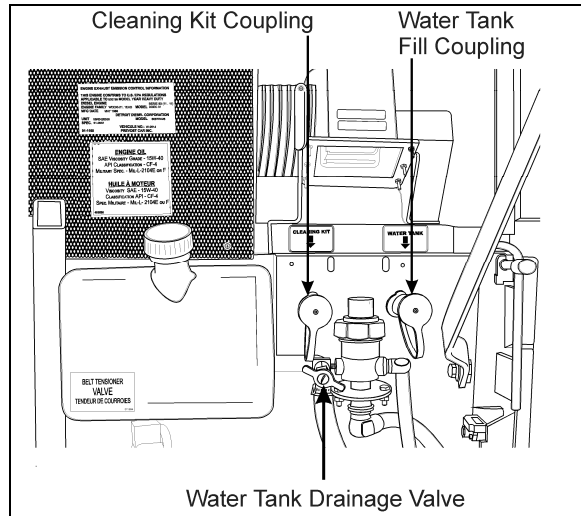

FIGURE 25: FRESH WATER TANK SERVICE VALVES
2. Insert projection at end of "BOBRICK" key into rectangular hole in cover (Fig. 25). Push straight in. While holding "BOBRICK" key in, turn cover counterclockwise about 1/8 turn.